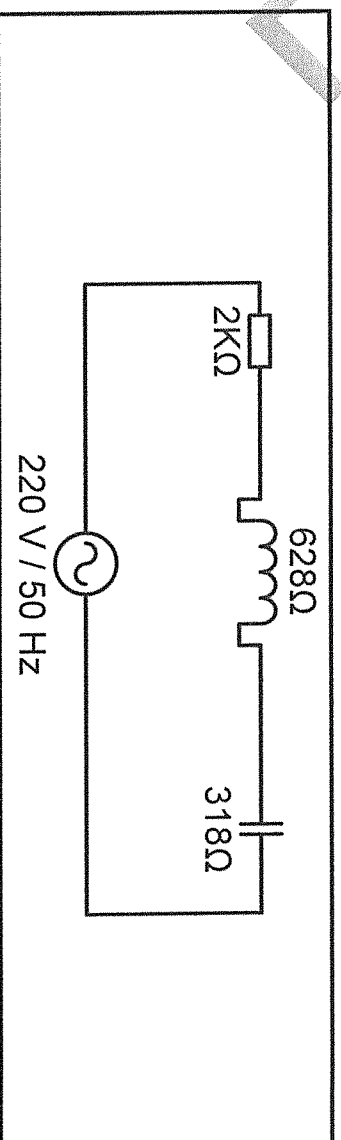

FIGURE 5.1: SERIES RLC CIRCUIT
5.1 Study the circuit in FIGURE 5.1 and answer the following questions.